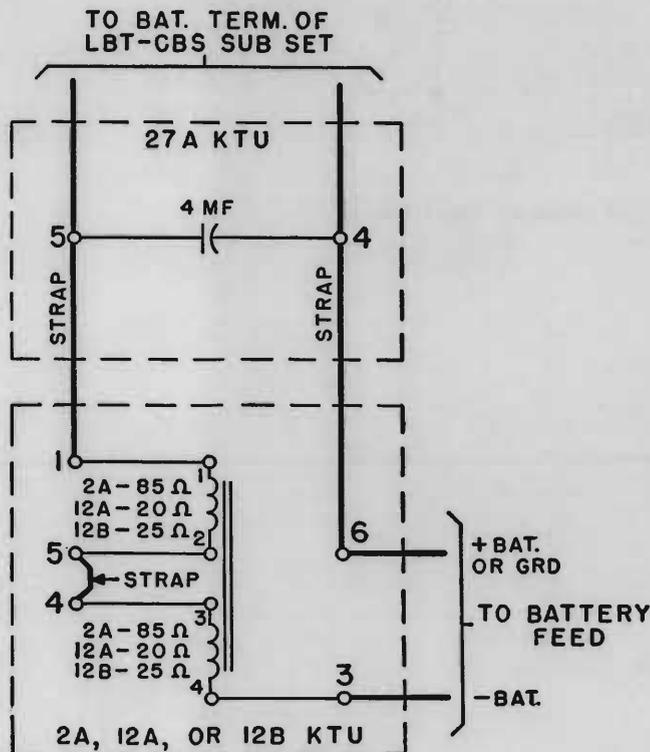

Fig. 1 — Battery Feed Filter
2.02 This filter is made up of a 27A KTU and a 2A, 12A, or 12B KTU wired as shown in Fig. 1.